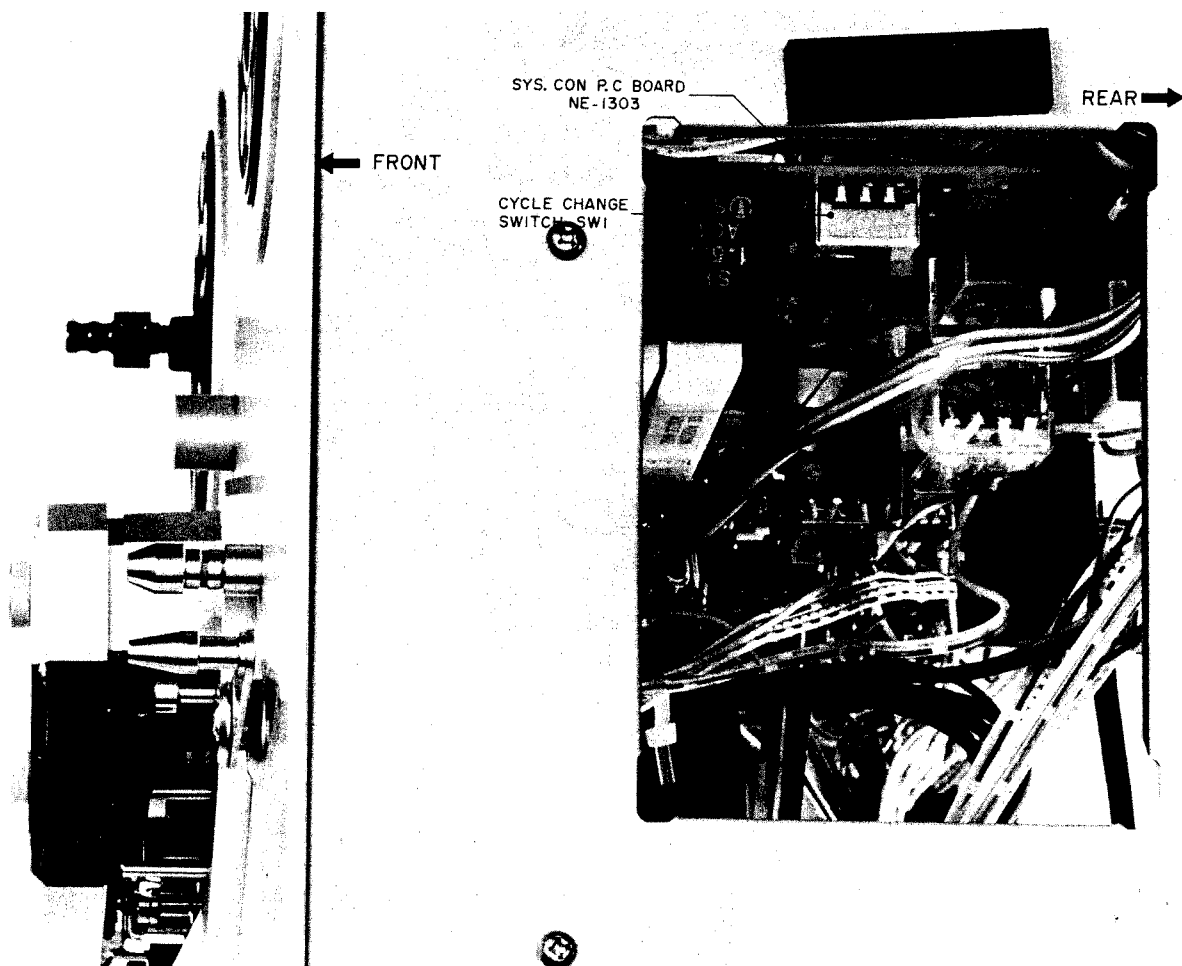

Fig. 5 Cycle Conversion
2. CYCLE CONVERSION (Refer to Fig. 5)
Remove the right side board and the side cover therein and the cycle change switch will be found through the hole at the center of the mecha side plate as shown in Fig. 5. Change over this switch according to the frequency of the power supply available. Moving the switch lever to the right (rear) and to the left (front) will set the GX-266II to 50 and 60 Hz, respectively.